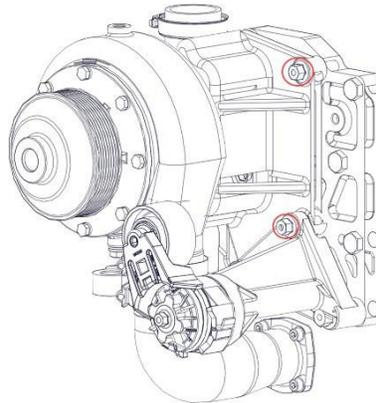

Figure 162-2.
6. Remove the two top front bolts from the water pump assembly (Figure 162-2).